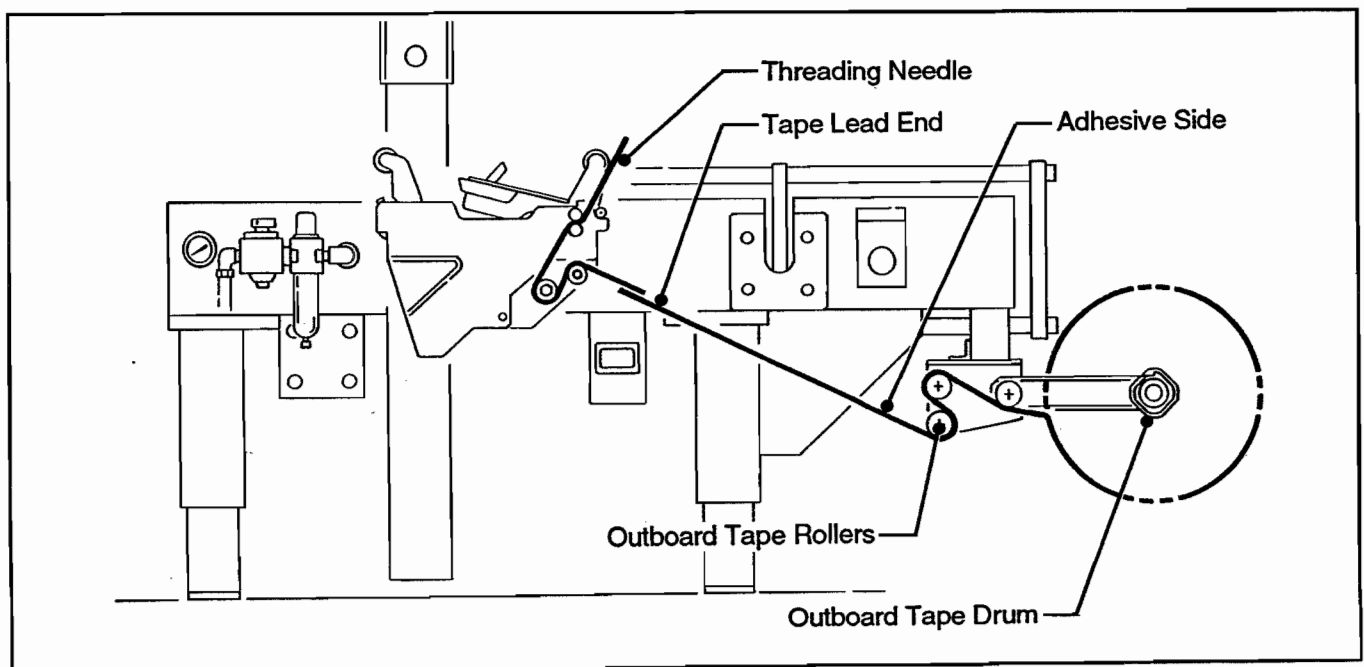

Figure 3-9 – Tape Threading With Alternate Outboard Tape Drum
3. Place tape roll on outboard tape drum with adhesive up on lead end of tape. Seat tape roll fully against back flange of tape drum. Thread tape through outboard tape rollers as shown in Figure 3-9 and adhere tape lead end to lower end of threading needle.